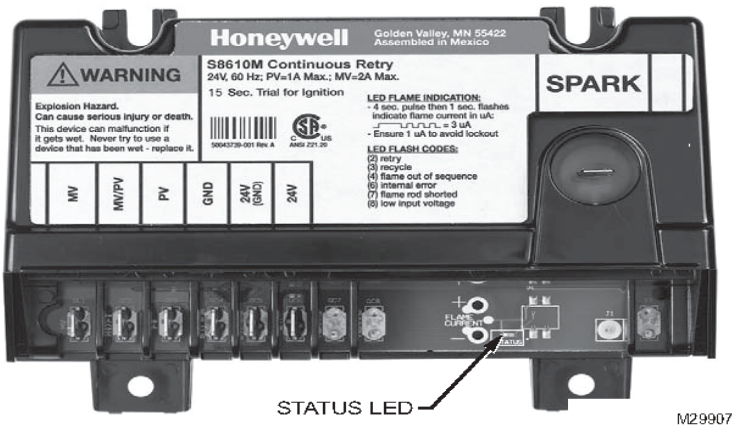
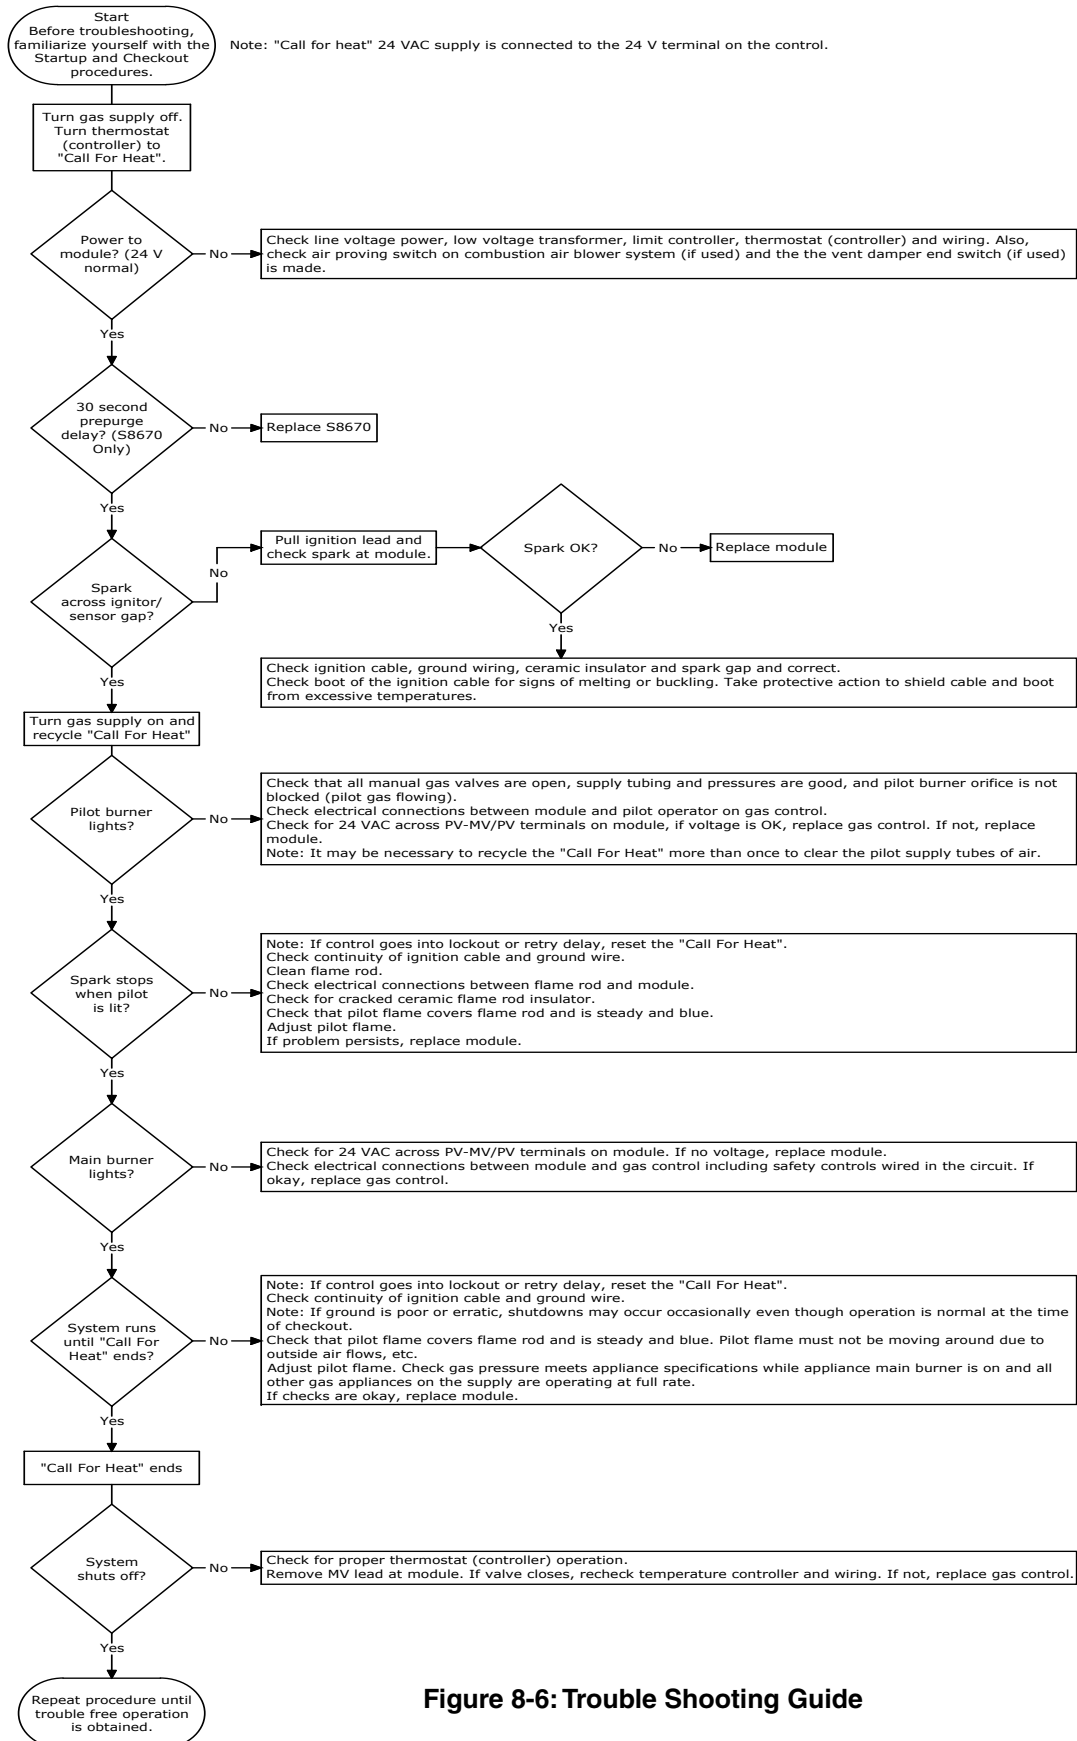

Figure 8-3: Location of LED
Figure 8-6: Trouble Shooting Guide
See Figure 8-3 for the location of the status LED on the electronic ignition (EI) module. Table 8-5 provides green LED status codes and recommended service action where applicable. See Figure 8-6 for Troubleshooting Guide.
- If main burners do not light or if main burners light but system locks out, check the module ground wire and gas control as described in the Honeywell Electronic Ignition Troubleshooting Guide, Figure 8-6.